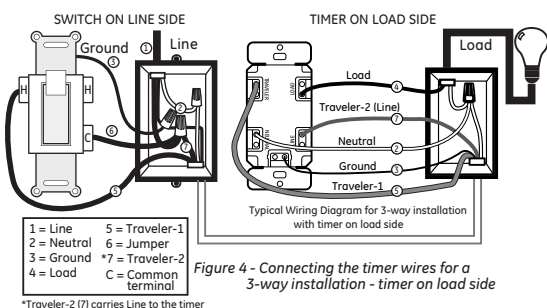

Figure 4 - Connecting the timer wires for a 3-way installation - timer on load side
3. Using Figure 4 as a visual reference, connect the jumper wire (6) (supplied), the LINE wire (1) from the common terminal (C), and the Traveler-2 wire (7) together. You should have three wires connected with one wire nut.
4. Connect the other end of the jumper wire (6) back to the common terminal (C) on the switch. Consider recording the marking/color coding of the Traveler-1 (5) and Traveler-2 (7) wires so you can tell them apart for later use.
2. Using the Timer On LOAD Side of Figure 4 as a visual reference for the remaining steps, connect the LOAD wire (4) to the LOAD terminal of the timer.
3. Connect the Traveler-2 wire (7) to LINE terminal of the timer.
4. Connect the Traveler-1 wire (5) to the TRAVELER terminal of the timer.
5. Connect the white Neutral wire (2) from the switch box to the NEUTRAL terminal of the timer. More neutral wires may be bundled in the back of the switch box; there may be several neutral wires bound together with a wire nut. Add the Neutral wire to the other neutral wires bound together, ensuring the wire nut is tight. If needed use included jumper.
6. Connect the green Ground wire (3) in the switch box to the GROUND terminal of the timer.
11. If the load does not operate properly, disconnect the power at the circuit breaker or fuse box. Then swap the Traveler-2 (Line) wire (7) and Traveler-1 wire (5) on the timer.